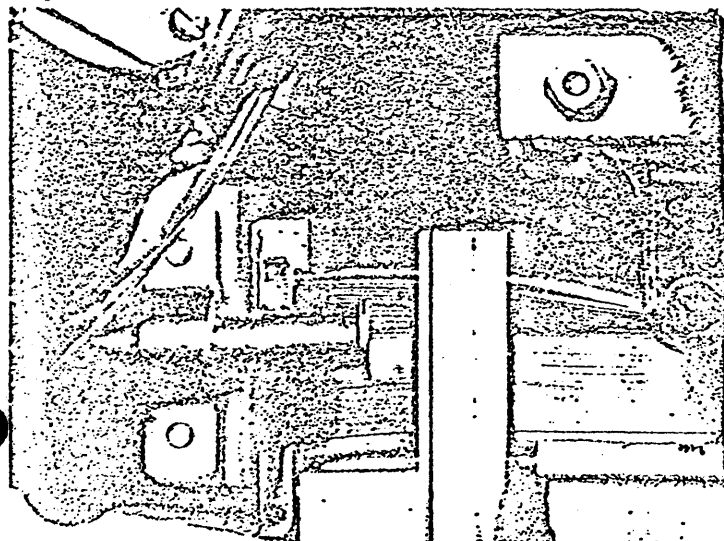

Fig. 3-86A. Proper Fluffing -- Outboard View
With proper fluffing, the top six to ten sheets should have good separation. Check the fluffing at both side fluffers and across the lead edge of the paper stack. Check the contour of the top sheet of paper. It should neither sag nor arch, but rather should slope from the snubber back to the rolling bar as shown in Fig. 3-86A.
3. Adjust fluffer relief valve to achieve conditions in Fig. 3-86A/3-86B for proper fluffing.